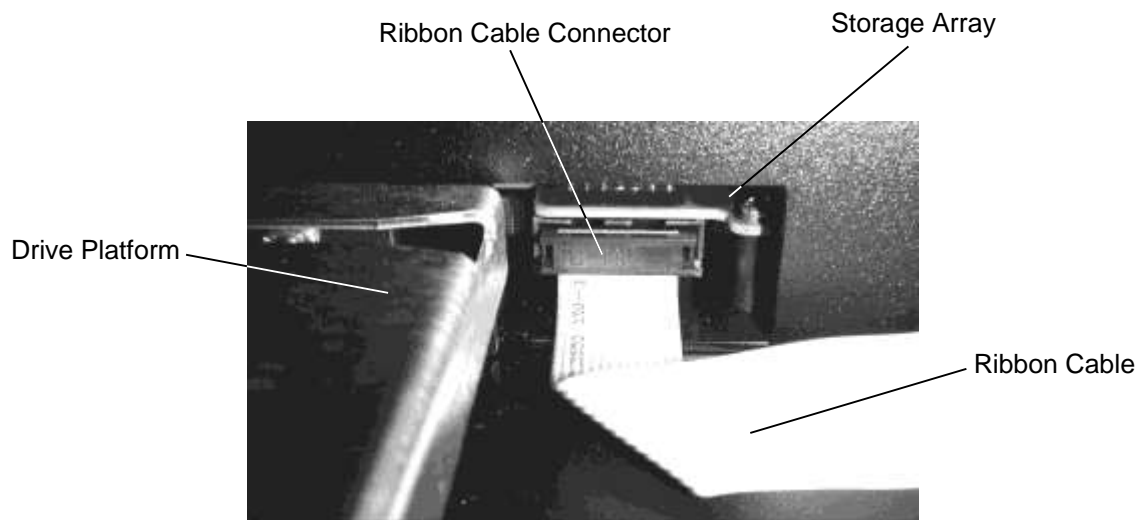

Figure 7-11 Detailed view of the Ribbon Cable attached to the Storage Array Assembly
4. In the rear left corner of the Drive Bay, just past the drive platform, is a ribbon cable running from left to right. Pull that cable to the right to unplug it from the Storage Array Assembly. See Figure 7-11.
9. Reach into the back, left corner of the drive bay and reconnect the ribbon cable that was detached from the connector on the Storage Array. The connector's keying bump must be pointed down or against the chassis. The connector on the Storage Array nearly touches the chassis bottom and is centered in the opening. Press firmly on the back of the connector to assure it's fully inserted into the Storage Array. See Figure 7-11.
6. Reach into the back, left corner of the drive bay and reconnect the ribbon cable that was detached from the connector on the Storage Array. The connector's keying bump must be pointed down or against the chassis. The connector on the Storage Array nearly touches the chassis bottom and is centered in the opening. Press firmly on the back of the connector to assure it's fully inserted into the Storage Array. See Figure 7-11.